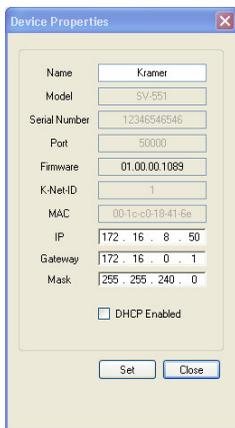
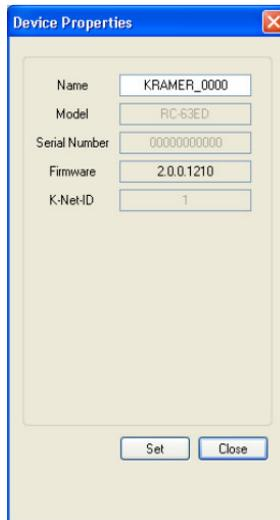

Figure 45: Device Properties Window
Figure 52: The Device Properties Window in the Stand Alone Mode
To connect a device, open the Device menu and click Properties. The Device Properties window Appears (see Figure 45). Figure 52 shows the Device Properties window in the stand alone setup.
6. Upon completion, open the Device Properties window (see Figure 45) to make sure the firmware was upgraded1.
Figure 52 shows the Device Properties window in the stand alone mode: